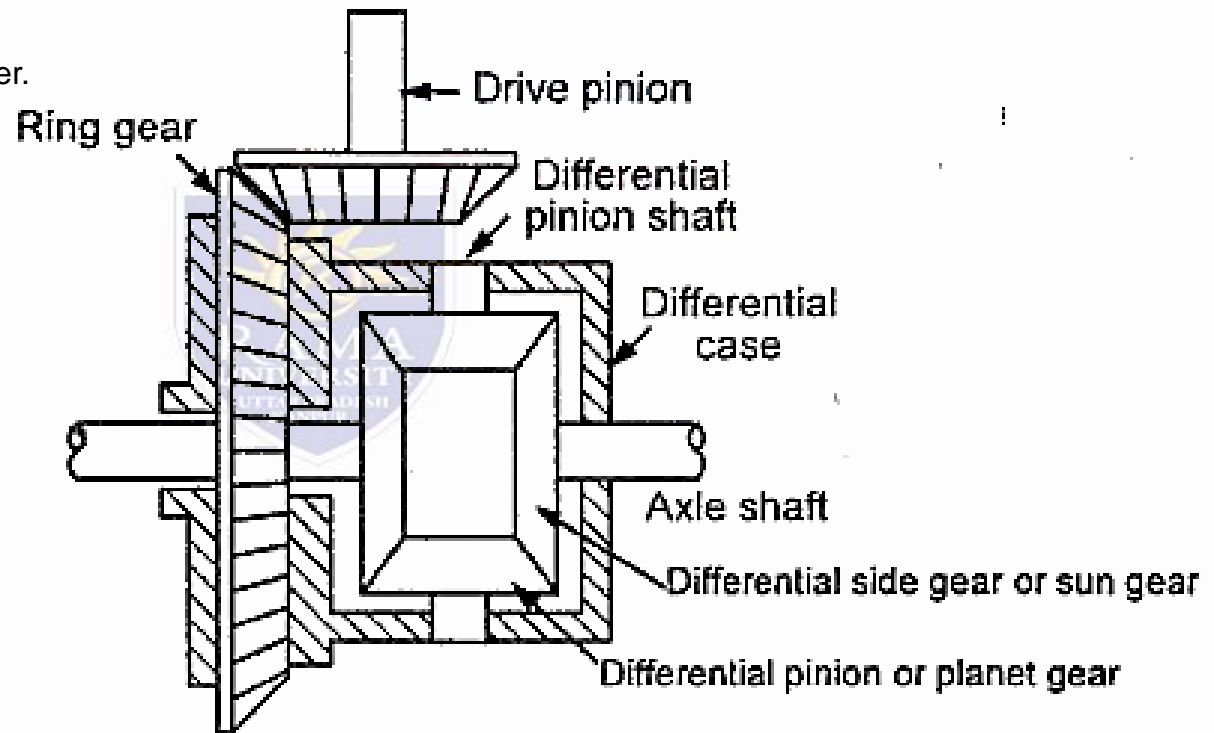

Figure 3.49 Rear wheel drive differential
- Figure 3.49 shows the basic parts of the type of differential used in rear-wheel-drive cars. On the inner ends of each axle a smaller bevel gear called differential side gear is mounted. Two bevel gears are put together to mesh both driving and driven shafts at an angle of 90° . The differential case is mounted with two wheel axles and differential side gears. The differential case has bearings which rotate two axle shafts. Then, the two pinion gears and their supporting shaft, called pinion shafts, are fitted into the differential case. Then, the pinion shaft is meshed with the two differential side gears connected to inner ends of the axle shafts.